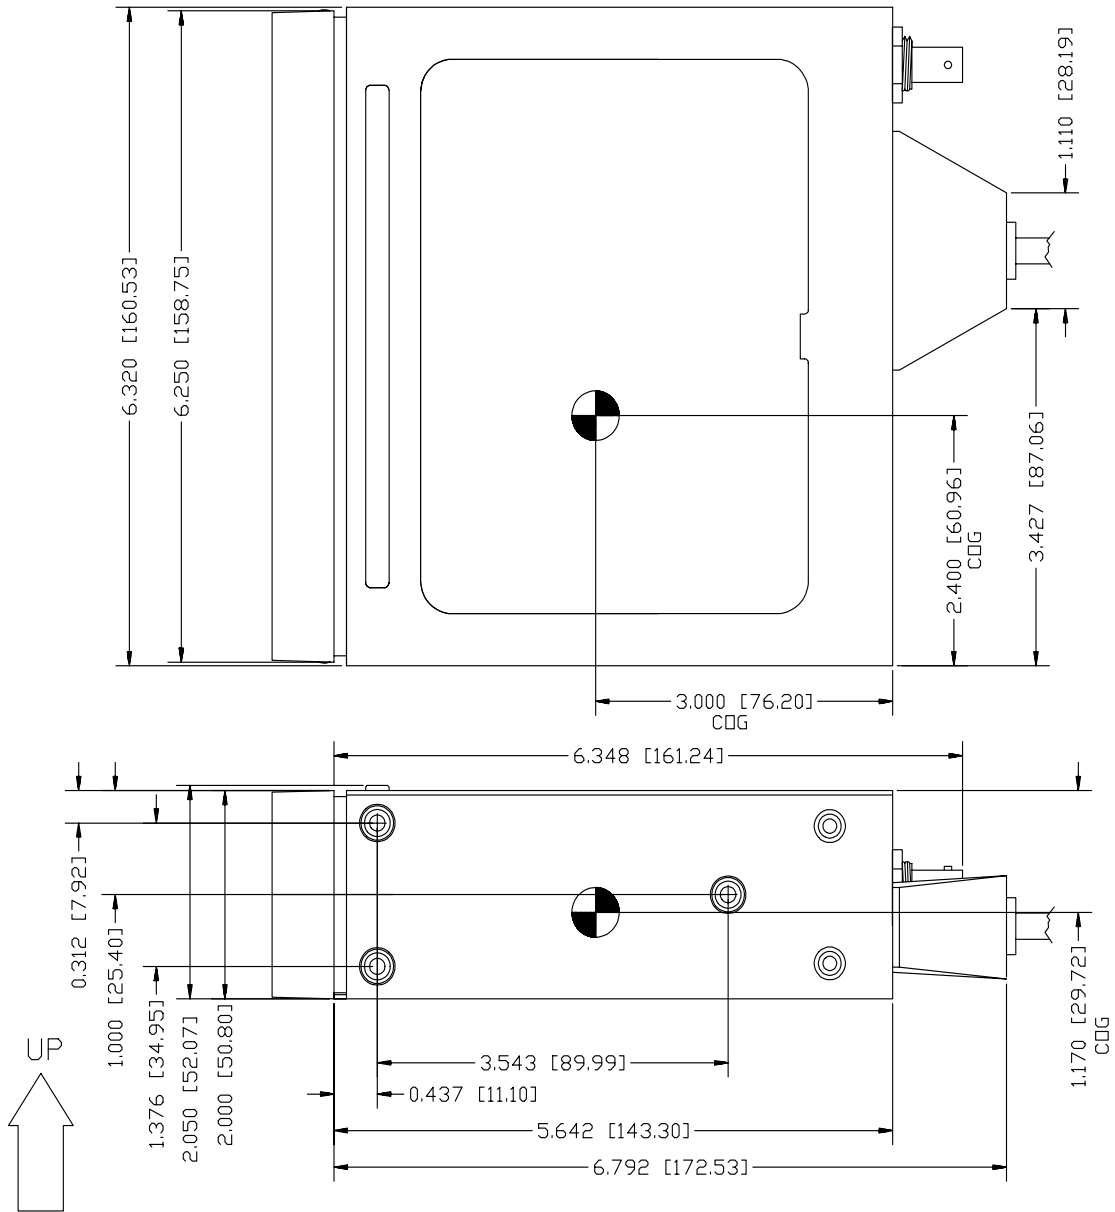

FIGURE 3-4 AVIATION RACK DIMENSIONS
- A. Figure 3-4 shows outline dimensions for the aviation rack. Install the rack in a rectangular 6.320" x 2.000" hole in the instrument panel. Exercise caution when installing the rack into the instrument panel. The rack is designed to facilitate removal of the GPS 150 for portable use. Deformation of the rack may make it difficult to install and remove the GPS 150.